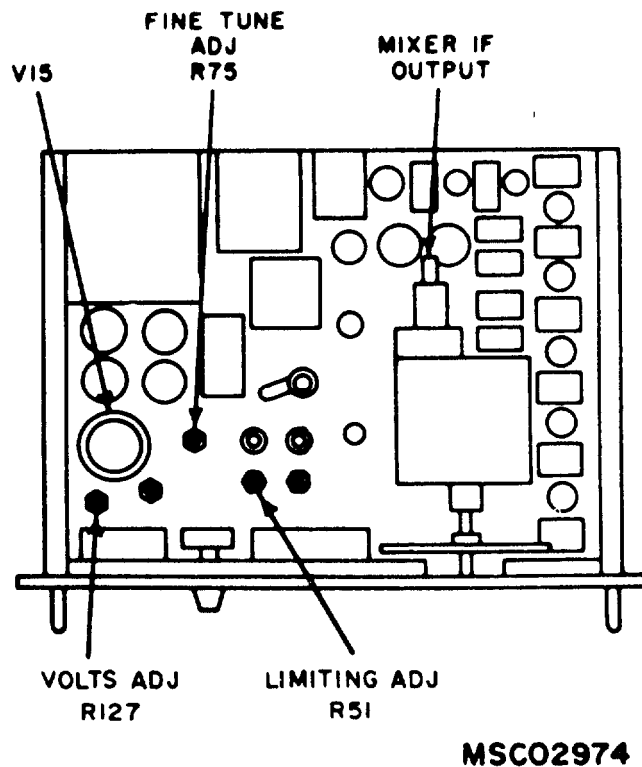

Figure 1. Modulation meter - top view.
(1) Set **FREQUENCY RANGE-MC** switch to **250-500** and adjust **FREQUENCY-MC** dial to **400**.
(2) Set synthesized signal generator frequency to 400 MHz and level to 5 mV.
(3) Adjust **TUNING** control for maximum indication on **LIMITING** meter while maintaining 5 mV level. If **LIMITING** meter pointer is not within the black area, perform **b** below.
b. Adjustments. Adjust **LIMITING ADJ R51** (fig. 1) until **TI LIMITING** meter pointer is at beginning edge of black area (R).
- (1) Set synthesized signal generator for an indication of 250 kHz above value recorded in **a** (4) above.
- (2) Adjust FINE TUNE ADJ R75 (fig. 1) until CARRIER SHIFT meter indicates a negative shift of 250 kHz (R).
- (3) Set synthesized signal generator for an indication of 250 kHz below value recorded in **a** (4) above.
(4) Adjust FINE TUNE ADJ R75 (fig. 1) until TI CARRIER SHIFT meter indicates a positive shift of 250 kHz (R).
(5) Repeat (1) through (4) above until no further adjustment is required.
a. Performance Check. Connect multimeter between pin 6 of V15 (fig. 1) and chassis ground. If multimeter does not indicate between 189.15 and 200.85 V dc, perform **b** below.
b. Adjustments. Adjust **VOLTS ADJ R127** (fig. 1) for a 195 V dc indication on digital voltmeter (R).